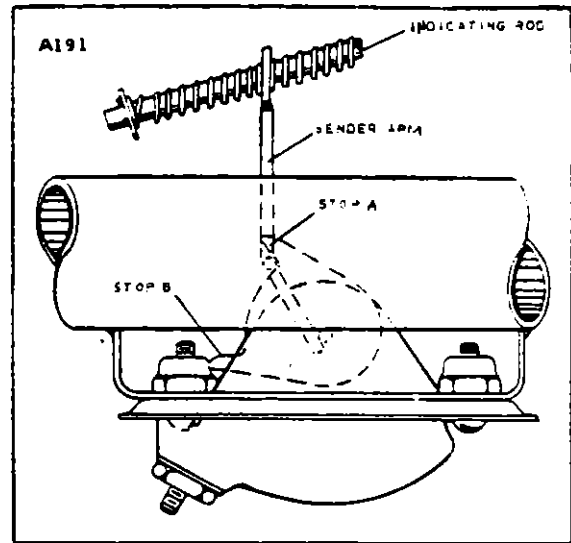

Figure 5-16. Flap Position Sender Unit
5. Move the indicating rod aft until the sender arm reaches stop "A". (Refer to Figure 5-16.) The ohmmeter should read from 0.00 to 0.50 ohms.
2. Move sender unit arm up to stop "A" (Refer to Figure 5-16.) the flap indicator gauge needle should point to the up position.